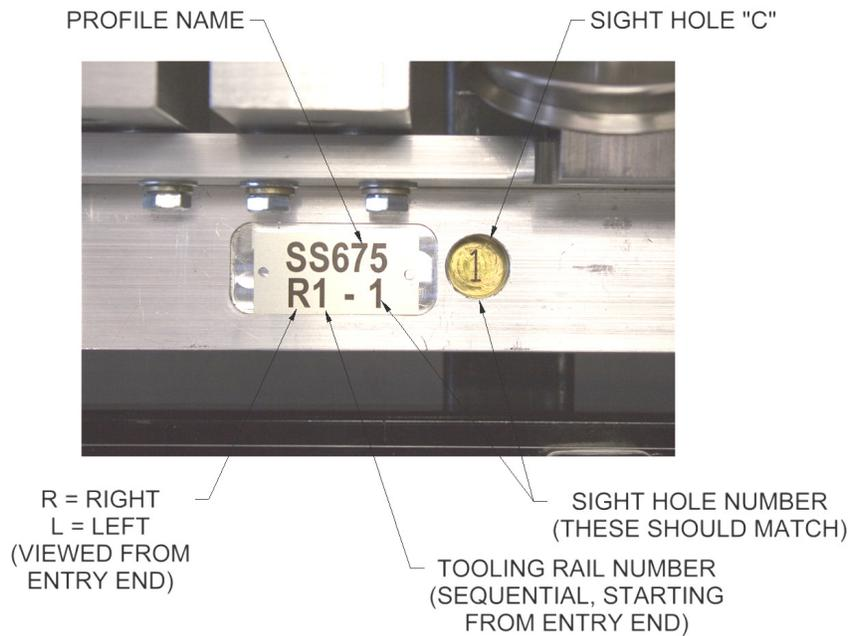

Figure 50: Tooling Rail Identification
7. Find the R1 Tooling Rail and set it flat on top of the Right Side Fixed Mount Rail #1 making sure the correct number shows in Sight Hole "C" (Figure 50). Thread the two mounting bolts into the slots of the rail and finger-tighten them. Pull the Tooling Rail assembly toward the outside of the machine until the two Tooling Rail Spacers "D" contact the face of the Fixed Mount Rail. Hold it in place while tightening the mounting bolts with a ½" wrench.